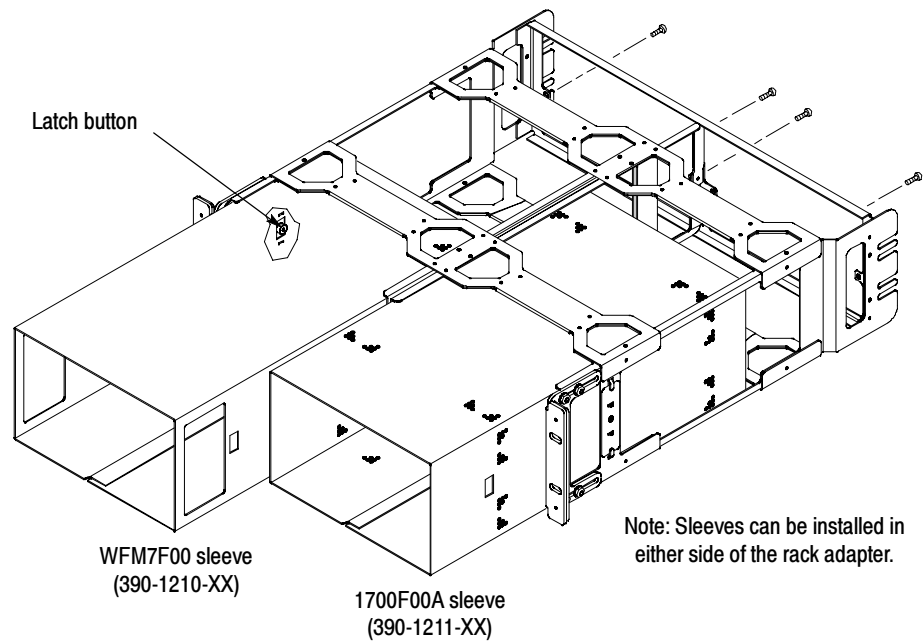

Figure 7: Installing the sleeves into the rack adapter. Two sleeves are shown in this example.
2. Slide the sleeve into the desired half of the rack adapter, depressing the button on the inside front of the rack adapter as needed to insert the sleeve. See Figure 7.